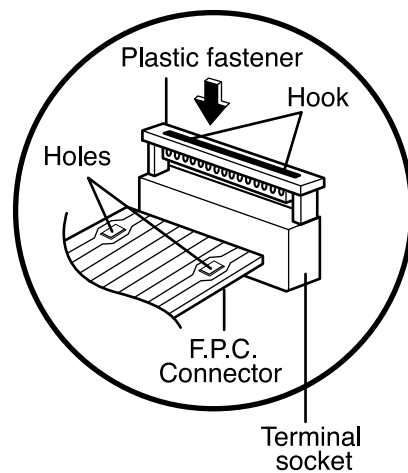

Figure 6
Follow the steps below as illustrated in Figures 6 and 7 to insert the F.P.C. connector.
- (1) Insert the F.P.C. connector into the terminal socket securely.
- (2) Hold the plastic fastener with thumb and forefinger of the other hand, and push it slowly into the terminal socket. (Figure 6)